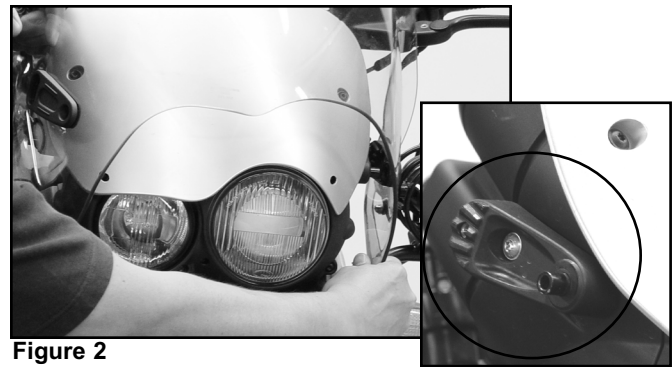

Figure 2
2. Remove the original windshield from the motorcycle by stretching one side over the attachment plate and then the other. **Figure 2.**
6. Install the Windshield to the motorcycle by engaging the attachment plate on one side and then stretching the windshield over the opposite side. **Figure 2.**